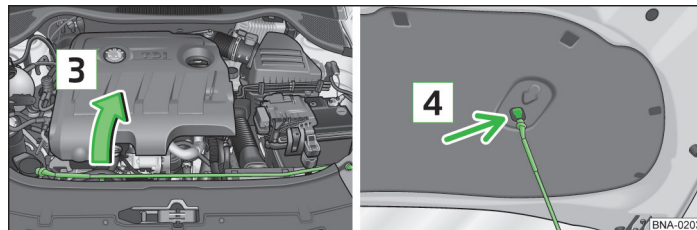

Fig. 57 Folded bonnet support / Attachment point of bonnet support
- Fold out the bonnet support from its holder in the direction of the arrow 3  fig. 57 and insert it into the opening 4.